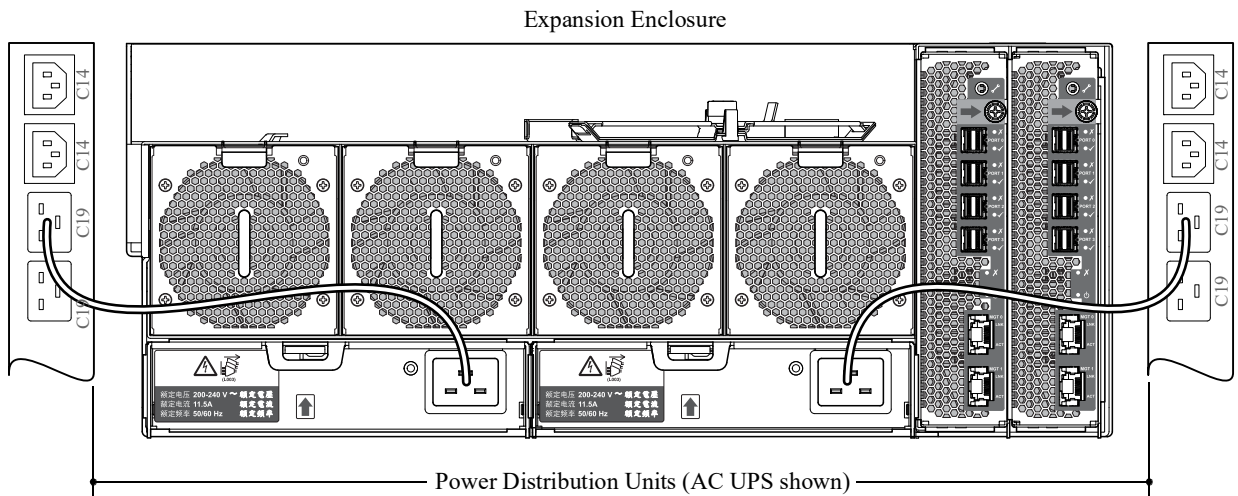

Figure 58 Typical AC power cord connection from PDU to PSU
① **IMPORTANT:** The 4U106 enclosure is fitted with two redundant PSUs. All power cords must be connected to at least two separate and independent power supplies to ensure redundancy.
- Figure 58 \(page 63\) shows power connection from a single-core PSU to a PDU using C19 connectors.
1. Power on the system by connecting the power cables from the PSU to the PDU. See Figure 58 \(page 63\).